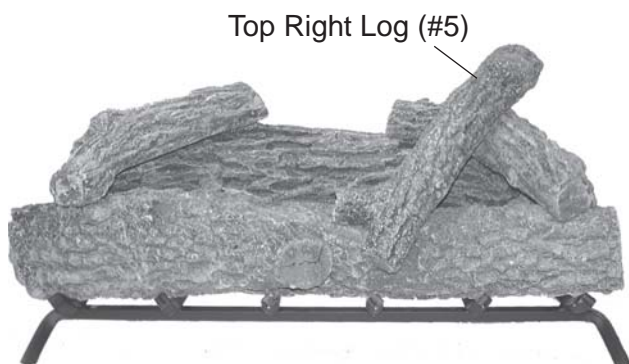

Figure 62 - Positioning Top Right/Left Log (#5)
5. Rest Top Right/Left Log #5 on Log # 4 and Log #1. *See Figure 62.*